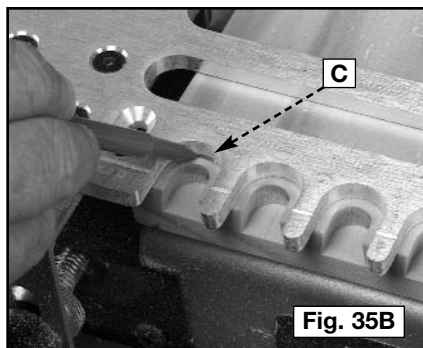

Fig. 35B
Step 2 - Use a pencil to mark the location of the half-circle between the fingers of the templates (C) Fig. 35B.